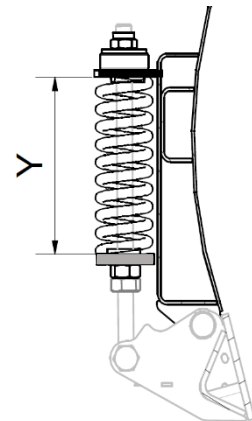

Figure 22
- 3) Tighten nut M2 against nut M1 to lock the spring – see Figure 22
- 4) Loosen nuts M1 and M2 in the lower part of the spring – see Figure 22